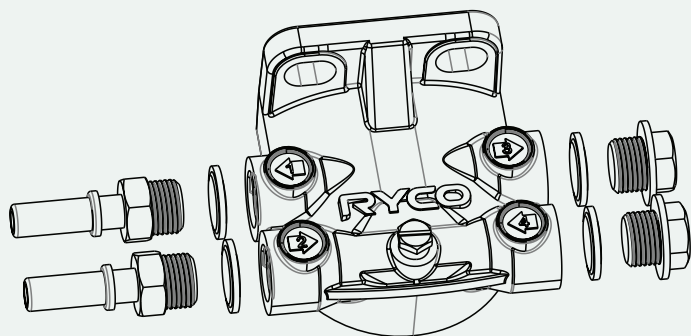

FIGURE 1
- 3 Install the Ryco fuel water separator head with metal quick connectors, blanking plugs and rubber bonded washers, as per FIG. 1. Tighten blanking plugs (on port 3 & 4) and quick connectors (on port 1 & 2).